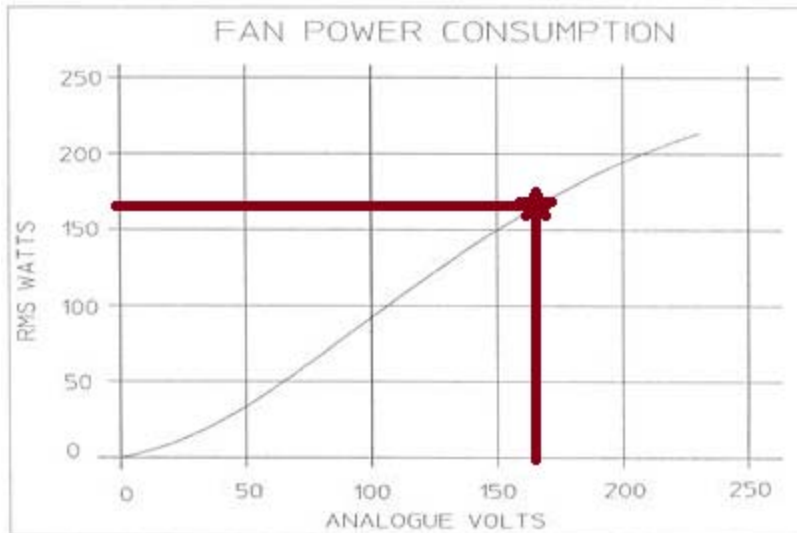

Figure 3: Fan power versus fan supply voltage [1]
the fan power can be obtained by using the fan power curve (Figure 3 in psychrometrics lab) and the measured fan supply voltage:
***Figure 3 in psychrometrics lab shown below